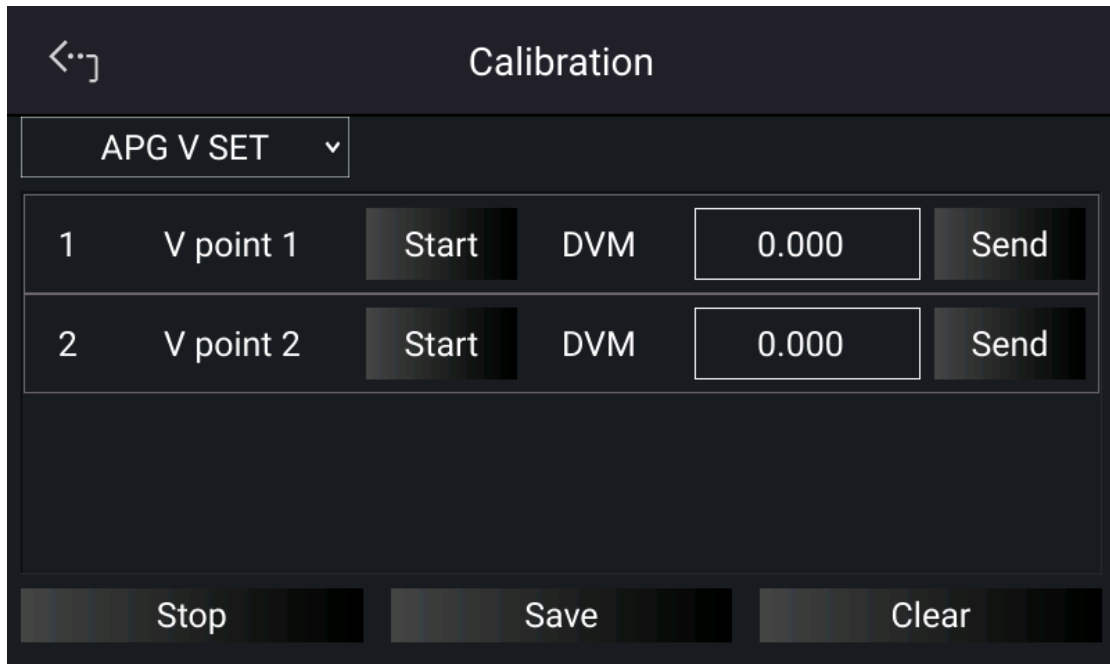

Figure 3-71
1. In Calibration page, tap “Host V” to select APG V SET and list the APG voltage calibration items as shown in Figure 3-71.
1. In Calibration page, tap “Host V” to select APG V MEAS and list the APG voltage calibration items as shown in Figure 3-71.